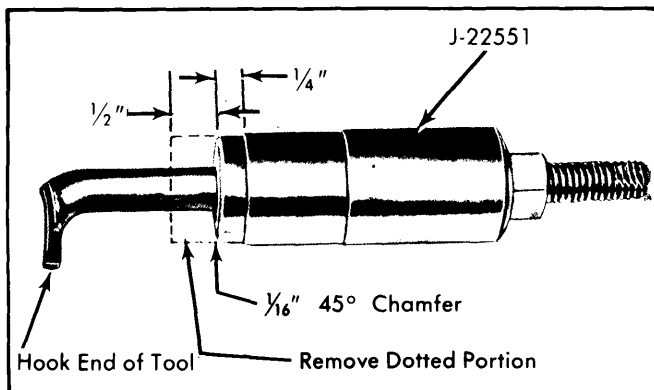

Fig. 13 Reworked Shift Tube Removal Tool
7) Rework a shift tube removing tool (J-22551) by removing $\frac{1}{2}$ " from pilot end of tool as shown in Fig. 13. Remove shift tube assembly using reworked tool as follows: Insert hooked end of tool into notch in shift tube just below shift lever housing key. Pilot sleeve over threaded end of tool and into upper end of shift tube. Force shift tube out of housing by turning nut onto the tool. If shift tube is not completely free when nut is bottomed on its threads, complete removal by hand. **CAUTION** — Do not hammer on shift tube during removal. On column shift models, guide lower shift lever through slotted opening in column to prevent damage to tube or column.